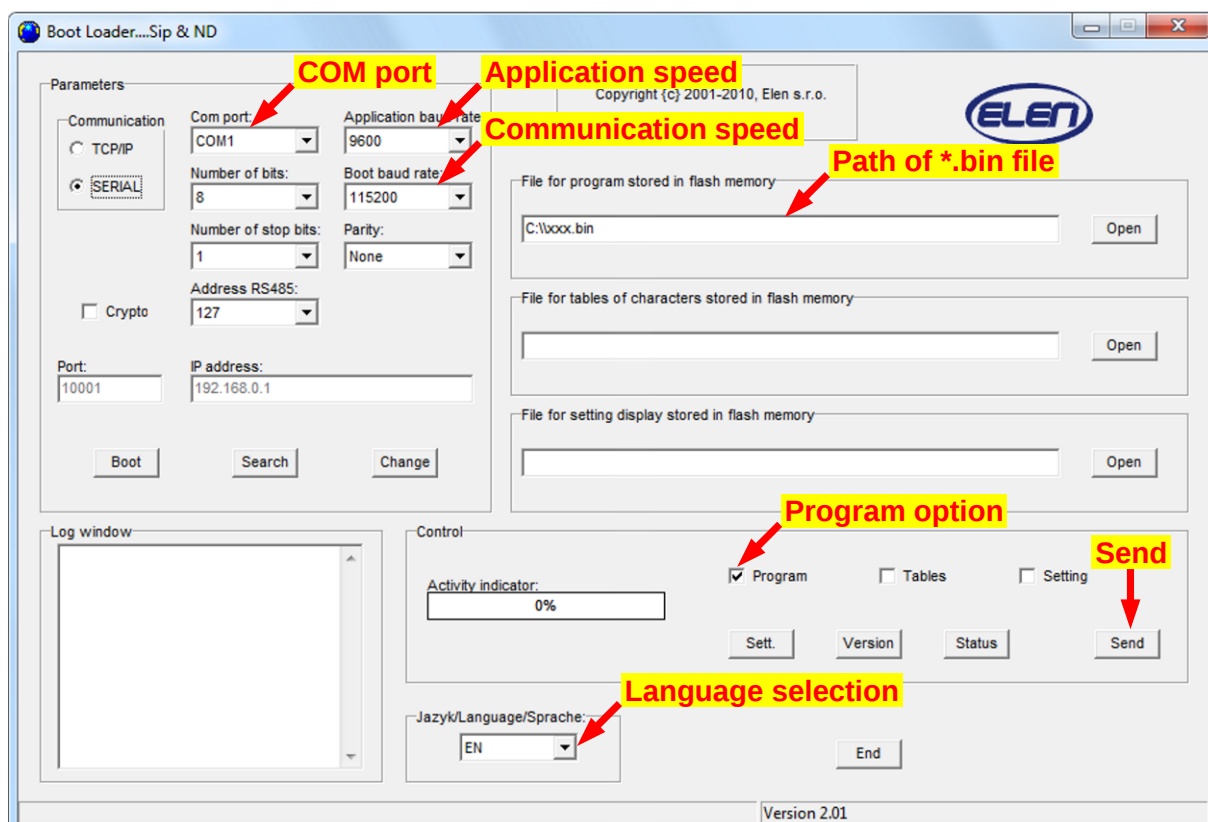
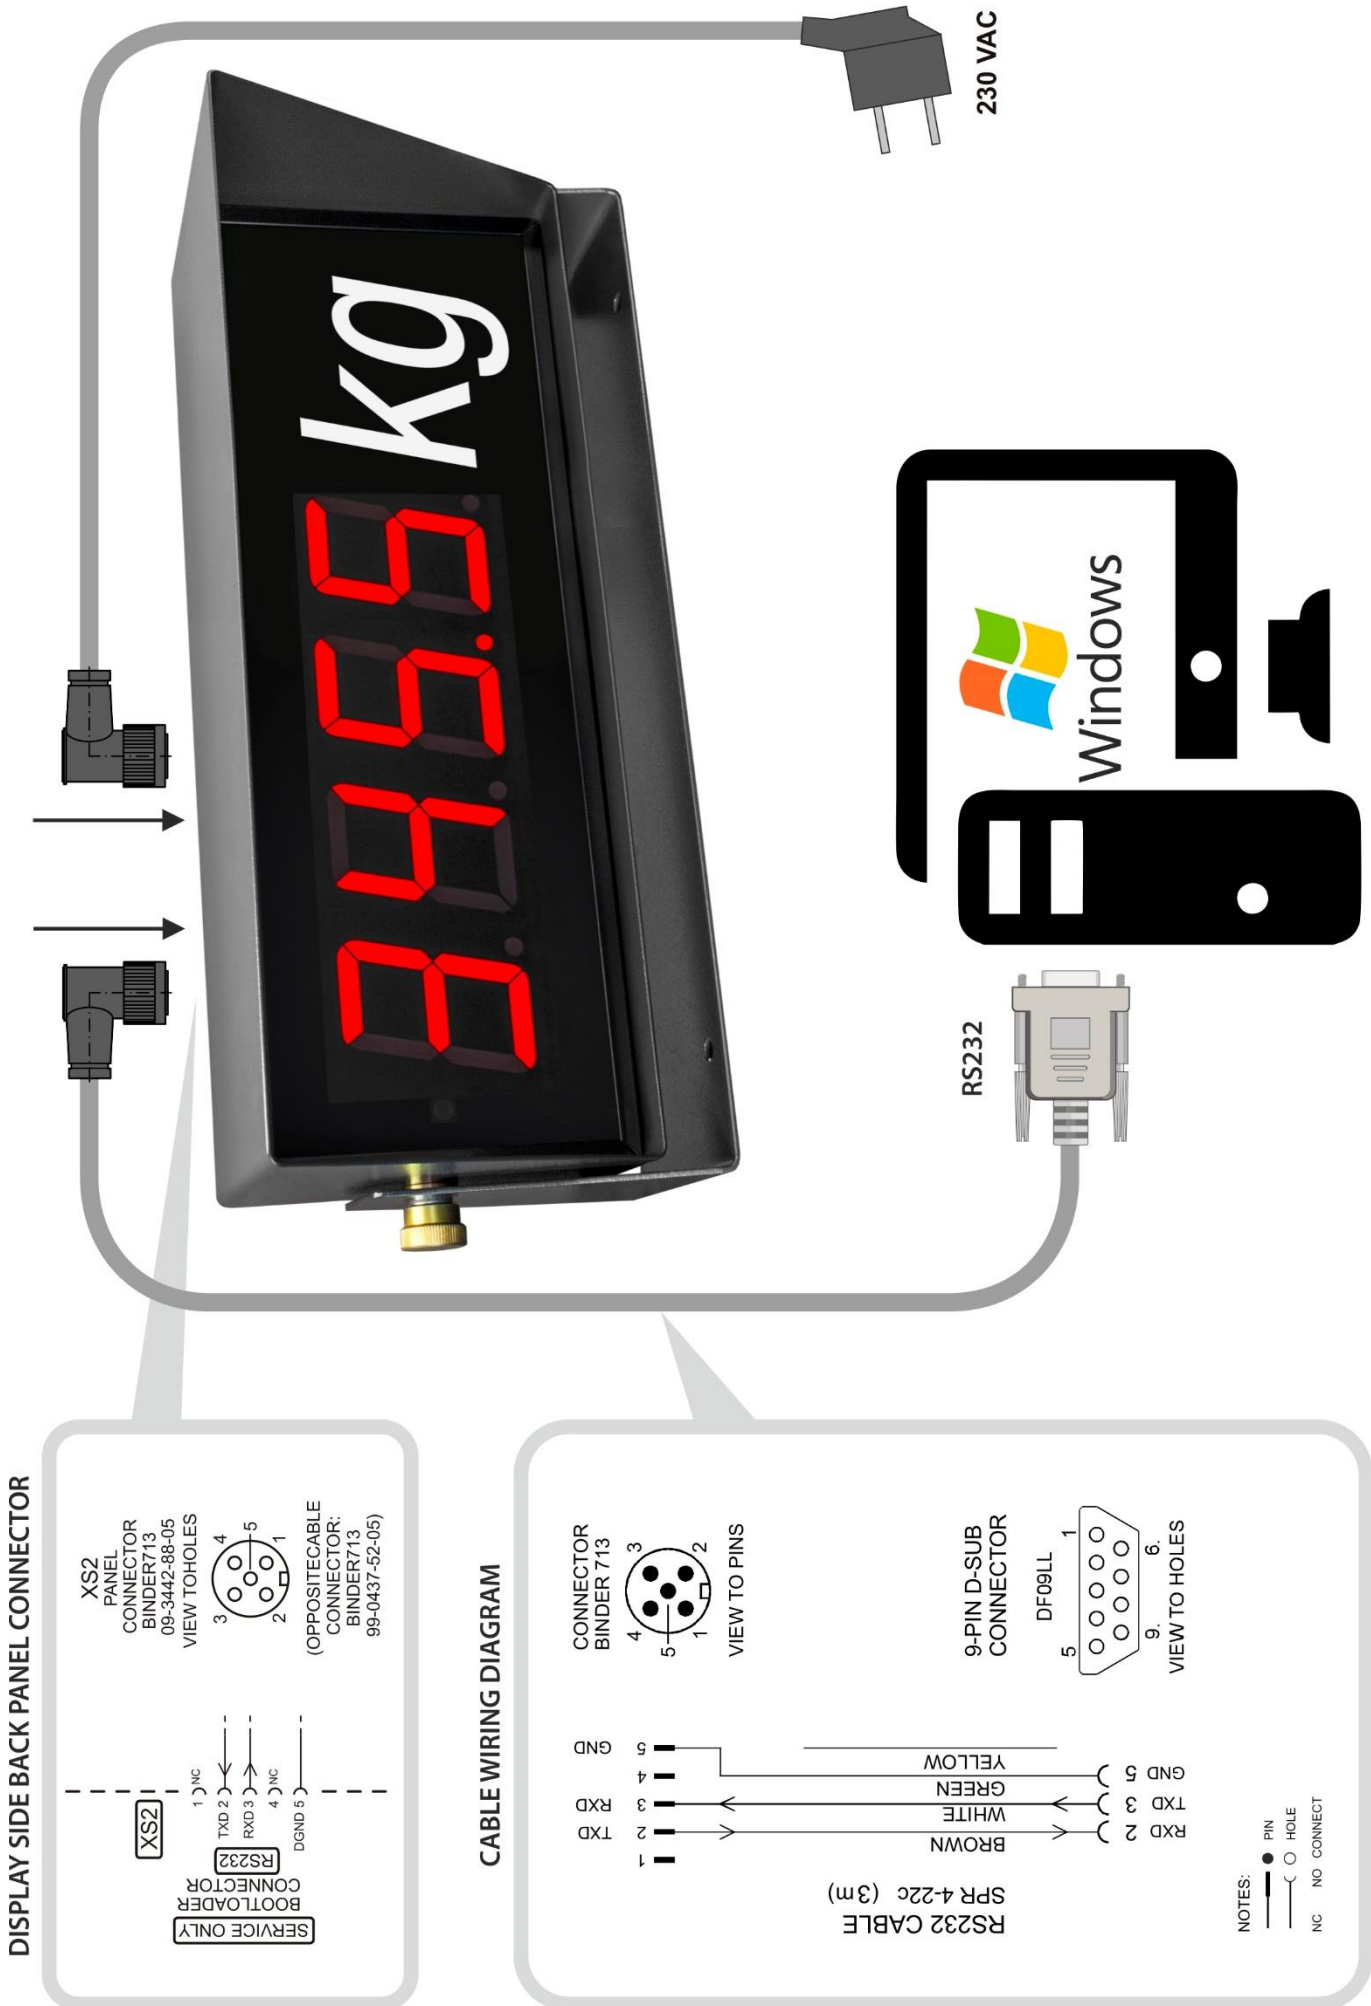

Fig. 1 Connecting programming cable from display to PC directly.
Fig. 2 Connecting programming cable from display to PC through USB/RS232 converter.
1. Connect the Service programming cable RS232 from PC to display. See fig. 1 and fig. 2 on the next page. If your PC does not have a RS232 serial port use the USB/RS232 converter.